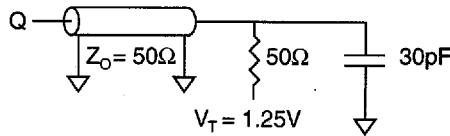

Fig. 1 OUTPUT LOAD EQUIVALENT
Output load	See Figures 1 and 2
5. Test conditions as specified with the output loading as shown in Fig. 1 unless otherwise noted.
6. Output loading is specified using Fig. 1 with C_L = 5pF versus 30pF. Transition is measured ±150mV from steady state voltage.